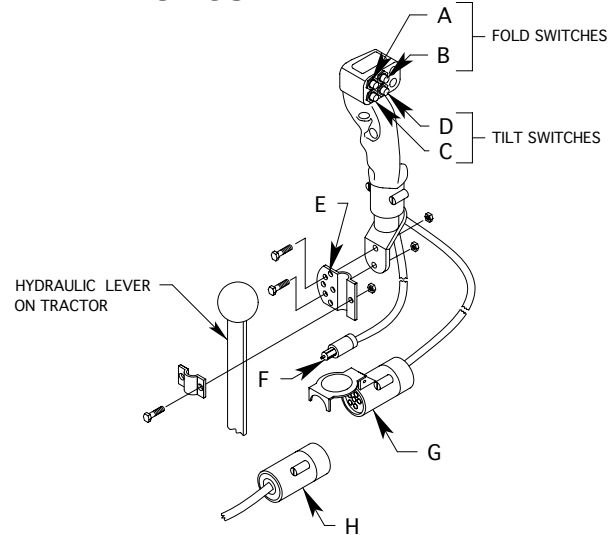

Fig. 15
The control handle should be attached to the hydraulic lever that operates the double acting outlet you intend to use. The universal mounting bracket "E" is very flexible and a number of different mounting positions can be used. Fig. 15 shows an example of how this may be done.
1. Depress switches "A" & "B" (See fig. 15) and move hydraulic handle forward or rearward to activate oil flow.